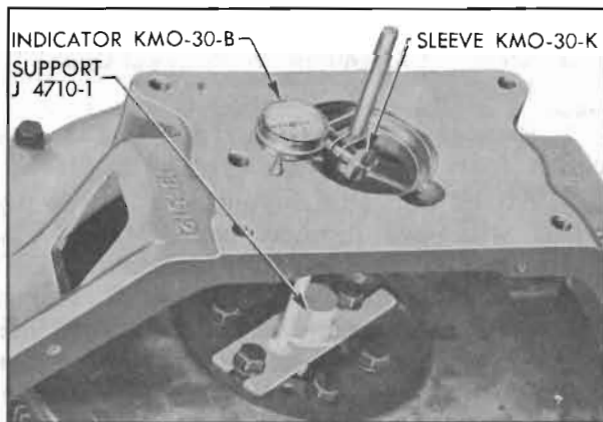

Figure 4-17—Checking Run-Out of Rear Face of Housing
7. Mount dial indicator to bear against rear face of flywheel housing at a radius of 2½", as shown in figure 4-17.